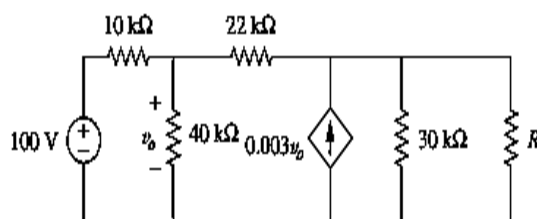

Figure 5
5. Find the maximum power transferred to resistor R in the circuit of figure 5 below.